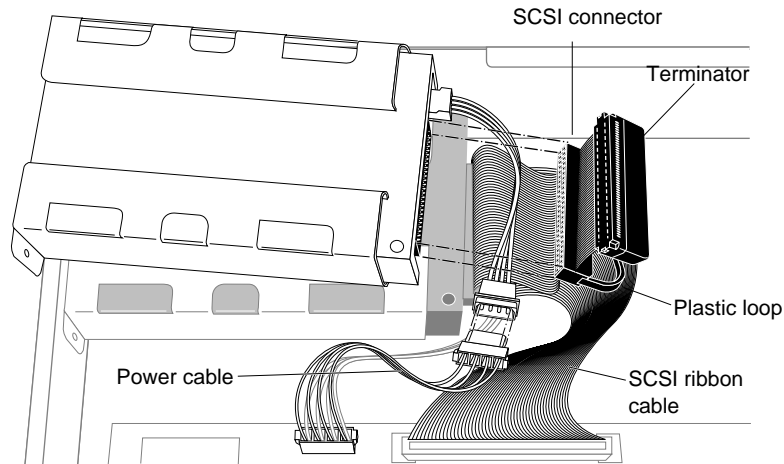

Figure 5-3 Connecting the SCSI Ribbon Cable and Power Cable to the Floptical or Second Hard Drive
7. Connect the power cable and the SCSI ribbon cable to the drive as shown in Figure 5-3. (Note that the drive is enclosed in a metal bracket. Do not remove the bracket.)
- Locate the SCSI connector (see Figure 5-3) on the SCSI ribbon cable. (Don't confuse it with the terminator at the end of the SCSI cable.) Press the SCSI connector firmly into the receptacle on the drive. Make sure it's pressed in firmly all the way.